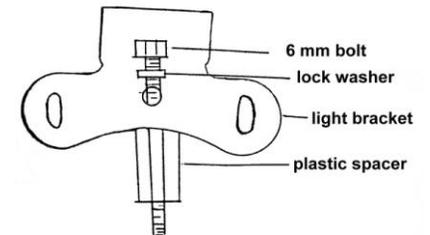

Figure 5
- Insert through middle hole in lamp mount base. Figure 5.